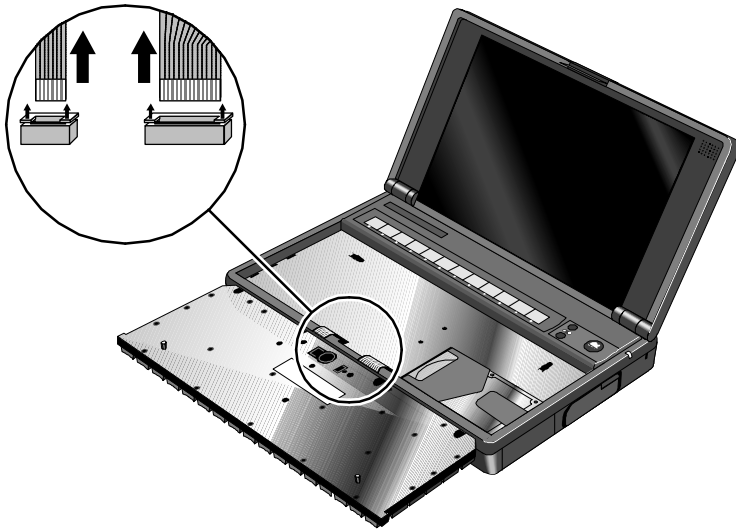

Figure 30 - Keyboard Flex Cables
4. Lastly, remove the keyboard flex cables from the zero insertion force slots. If available, use the provided Keyboard Flex Cable Removal Tool (part number 5182-7482) to assist in “opening” the zero insertion force slots. Otherwise, a pick may be used to *gently* lift up the top of the slots. See Figure 30.